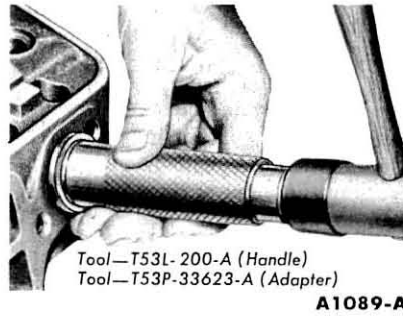

FIG. 21—Water Outlet Plug Installation
3. Install the plug with the flange facing out. Drive the plug in until the flange is flush or slightly below the casting surface (Fig. 21).